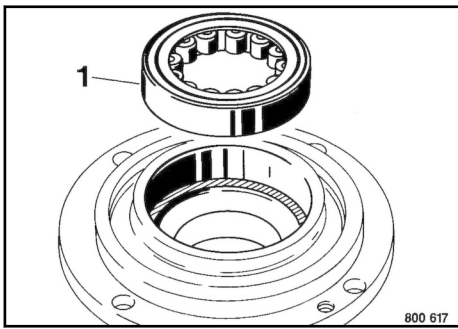

Fig. 229
4. Remove cylinder roller bearing 1 ↗ Fig. 229 from the bearing flange.